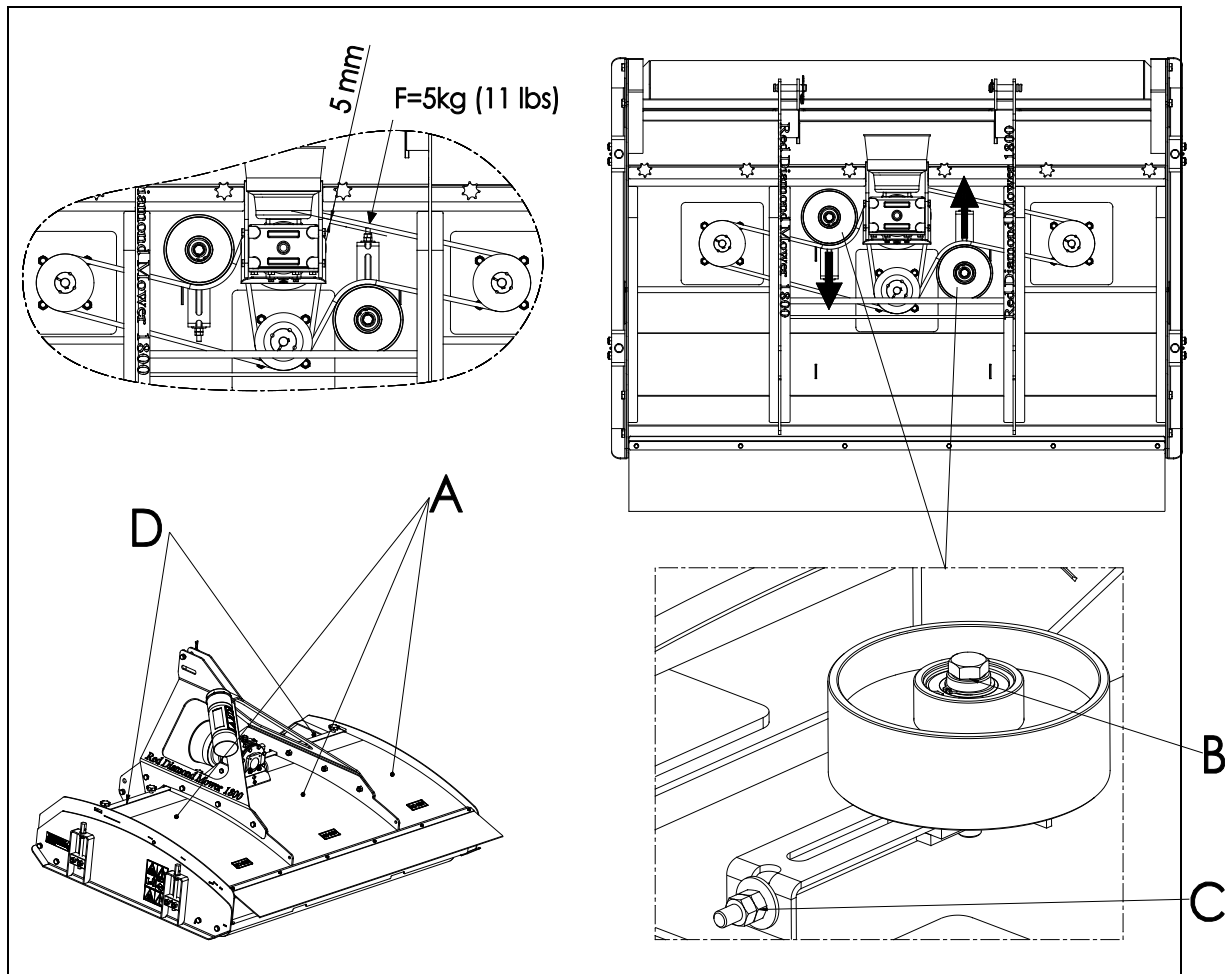

Figure 15
Adjustment is carried out as follows (see Figure 15):
2. Apply a force of 5 kg (11 lbs.) on the centre of the bottom part of the belt (see Figure 15).